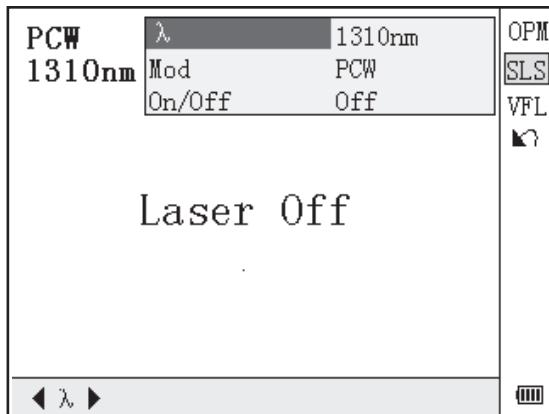

Figure 4-13. Stabilized Laser Source Setting
- Use ◀ and ▶ to toggle between SLS working wavelengths. Press Enter to enter SLS setting interface (Figure 4-13).